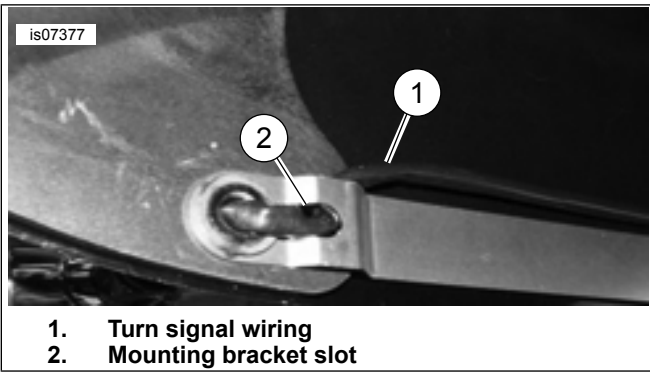
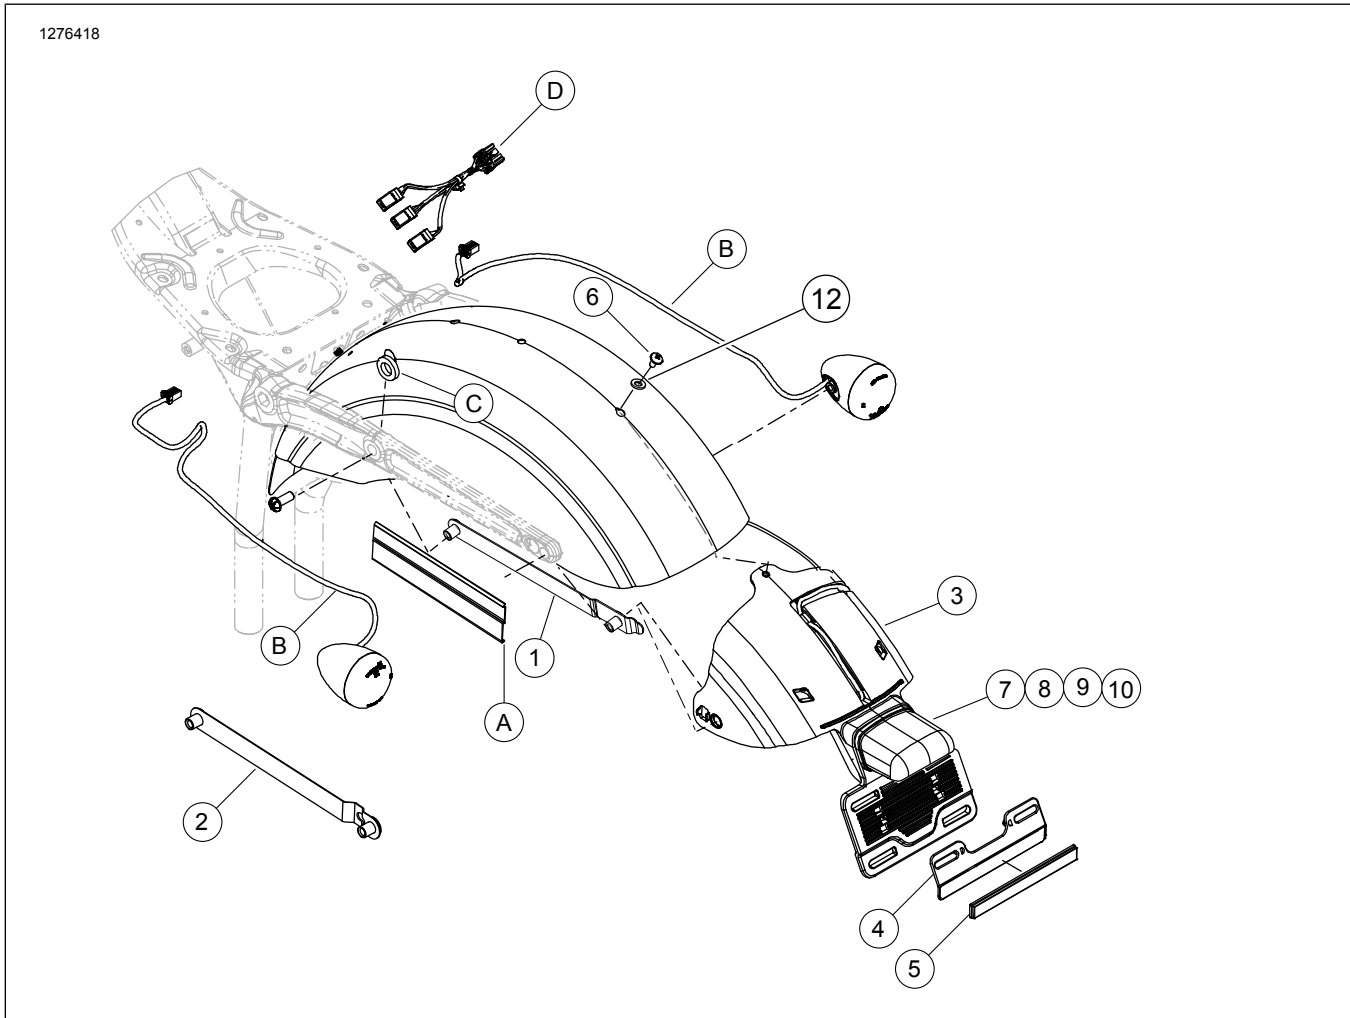

Figure 3. Wire Routing
Figure 4. Service Parts: License Plate Relocation Kit
See Figure 4 and Table 1.
12. See Figure 4. Get three **new** wires, one black (10), one violet (9) and one blue (8), from the kit.
13. Insert the tool between the outer edge of the rubber gasket (4) and the inside of the housing. Gently pry up the reflector (5) until free.
17. Insert the terminal of the **new** black wire (10) into the cavity in the rear of the reflector (5) until it clicks into place. Thread the blue wire (12) and violet wire (11) through the center of the reflector (5), and the spring (7), and insert the button terminals into the correct slots and cavities in the reflector bulb socket (6).
20. See Figure 4. Get the protective tubing (12) from the kit, and cut into two equal-length pieces.
1. See Figure 4. Refer to instruction sheets for the accessories being installed with this kit (i.e. saddlebags, uprights, or turn signal relocation kits). The license plate relocation kit must be installed along with these accessories.
3. Snap the plastic wiring channels (A) saved earlier, onto the new fender mounting brackets (2).
4. Place the center mount license plate module (3) underneath the fender and secure it with screw (6).
5. If installed with two-up seat, use plastic washer (12) between seat mounting tab and fender.
6. Fender mounting bracket is installed over the side hole in the license plate module (3) and secured with hardware from the saddlebag, upright or turn signal relocation kit. Repeat for the opposite side.
8. Remove adhesive backing from reflector (5). Place reflector on reflector bracket (4).
9. Snap reflector bracket (4) to license plate module.
10. Route license plate illuminator wire through the wire channel (A) on the right side fender mounting bracket. Connect socket connector from the illuminator wiring with the mating pin connector harness (18) on the vehicle.
11. Refer to the instruction sheet for the accessory being installed for turn signal wire routing instructions. Route the wiring through the wire channels. When using fender mounting brackets 57300020 the turn signal wiring must pass through slot in the mounting bracket before routing through the plastic wiring channels. See Figure 3. Connect the socket housings on the turn signal wiring with the mating pin connector on the rear lighting harness (F).